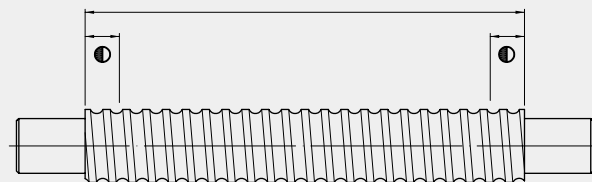

Fig 4.8 The heat treatment range of the ballscrew spindle
- (9) After heat treating the ballscrew spindle, both ends of the balltracks adjacent to the journal have about 2 to 3 leads left soft, for the purpose of machining. These regions are shown in (Fig. 4.8) with the mark "●" on HIWIN drawings.